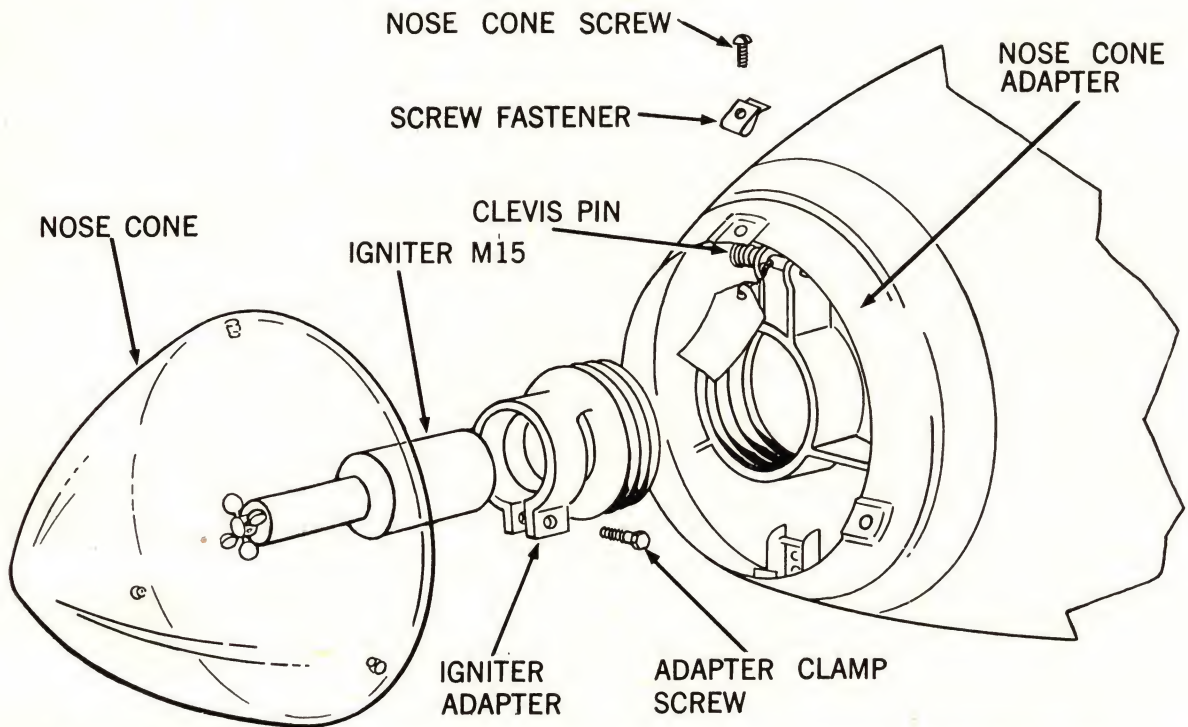

Figure 10.—Nose Cone Assembly With Igniter M15 and Igniter Adapter, Exploded View.
- a. Clamp Igniter M15 in igniter adapter in nose (figure 10) and Igniter M15 or M16 in igniter adapter in tail. Insure that the igniters bottom on the end plate castings before tightening the igniter clamps.